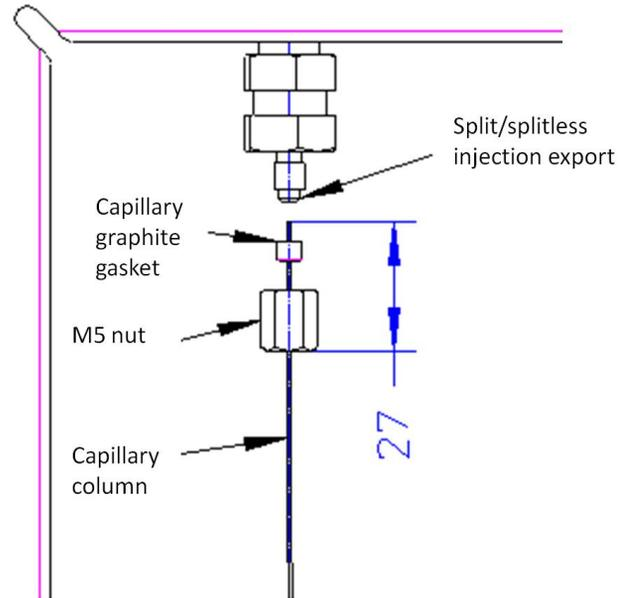

Figure 3.7.2
- 2) As shown in Figure 3.7.2, hold the position of capillary column which extends from the nut M5 for 27mm. First, hand-tighten the nut and the joint, then use an 8-inch wrench to tighten the nut.